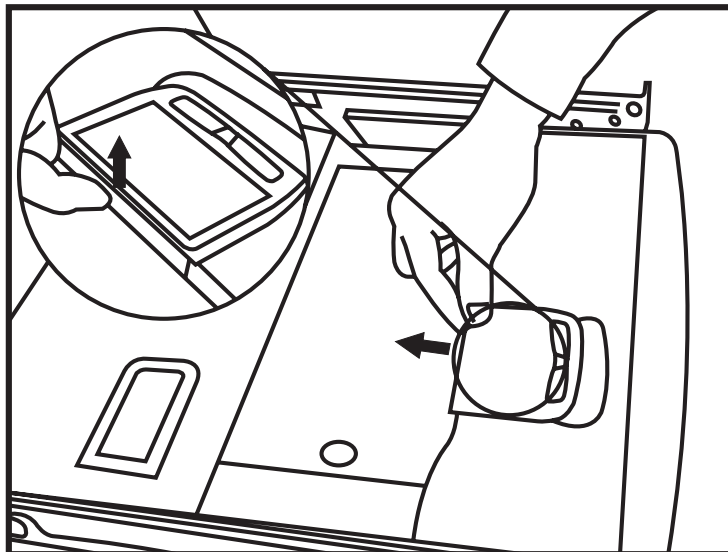

Figure 4-20. Releasing the latch on the touchpad.
1. To remove the touch pad, press the tab underneath it upward to release the latch. See Figure 4-20.